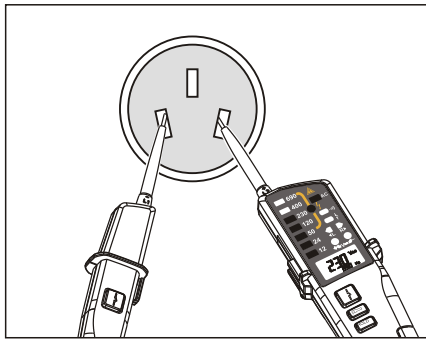

Figure 3
1. Complete self-check of tester before test. After pressing flashlight key 5s, tester would perform AC/DC full range detection, accompanied by flashing LED (with exception to RCD light) and blinking displayed LCD. If need to exit self-check, just touch the flashlight key. Connect two test pens to the conductor to be measured, select a known voltage for measurement, such as 220V socket, and ensure the measurement accuracy (See Figure 3). The tester cannot measure AC and DC voltage less than 5V and provides no accurate indication while measured voltage is 5Vac/dc. Illuminating continuity light or AC light or high-voltage symbol (UT18D) and beeping buzzer are normal.